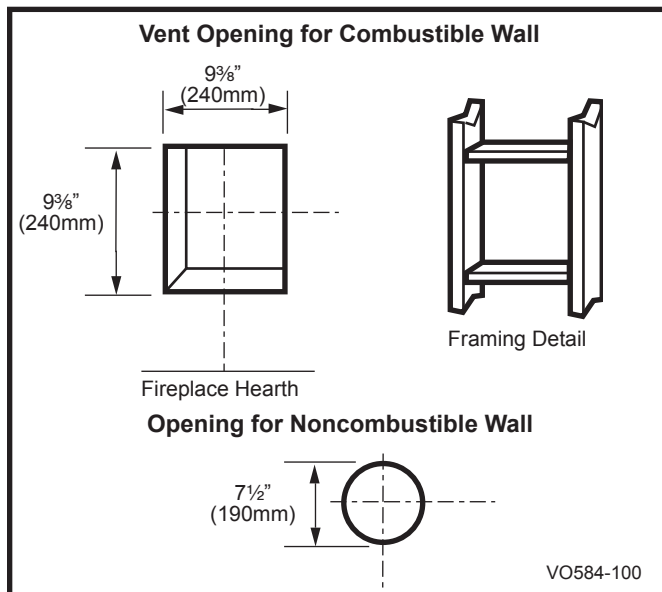

Fig. 25 Locate vent opening on wall.
Locate vent opening on the wall. It may be necessary to first position the fireplace and measure to obtain hole location. Depending on whether the wall is combustible or noncombustible, cut opening to size. (Fig. 25)
**Combustible Walls** (Fig. 25): Cut a  $9\frac{3}{8}"$  H x  $9\frac{3}{8}"$  W (240 x 240 mm) hole through the exterior wall and frame.
**Noncombustible Walls** (Fig. 25): Hole opening must be 7.5" (190 mm) in diameter.
1. Establish vent hole through the wall. (Fig. 25)